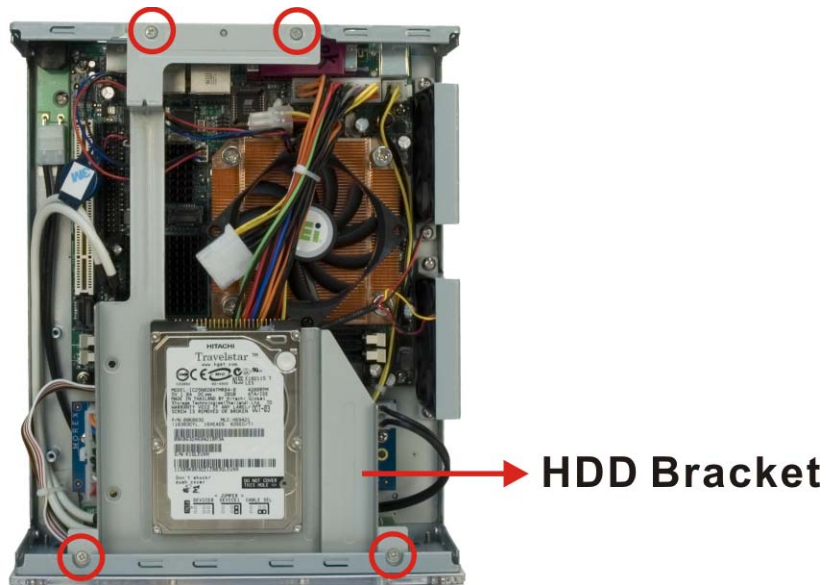

Figure 7-1: HDD Bracket Retention Screws
Step 4: Remove the four HDD bracket retention screws inside the chassis (**Figure 7-1**).